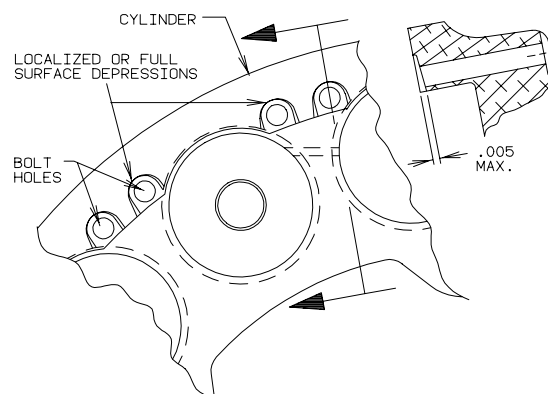

Figure 1. Brake Cylinder Inspection
4. (See Figure 1.) Inspect the cylinder surface (back plate interface) for indentations (crushing) caused by the back plates. This type of indentation will be especially noticeable around the bolt holes.